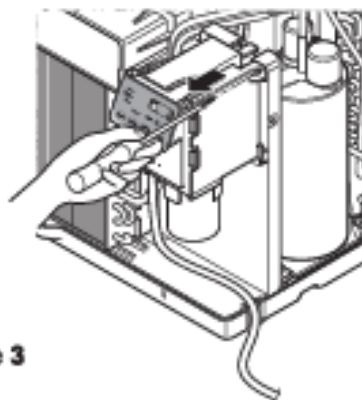

Figure 3
2. Remove the screw which fasten the control box. (See Fig. 3)
3. Pull the control box from the barrier. (See Fig. 3)
7. Re-install the components by referring to the removal procedure. (See Fig. 3)